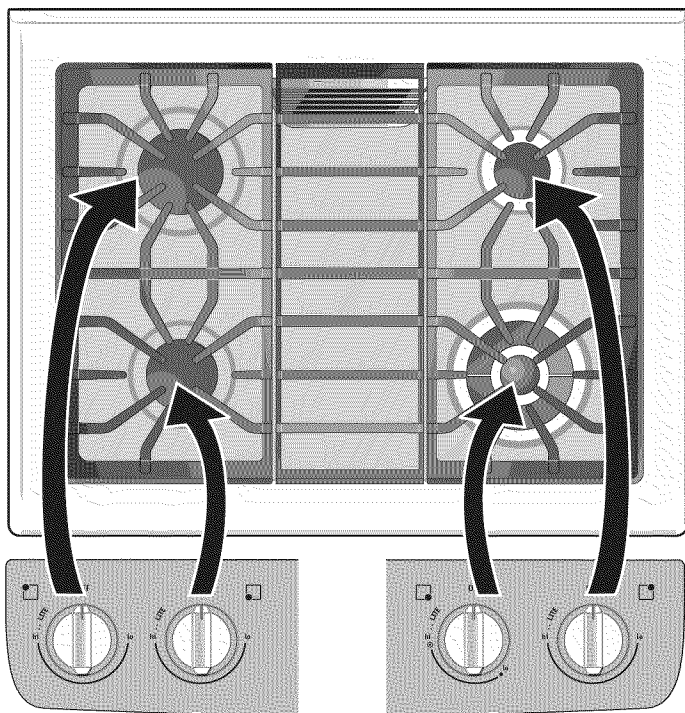

Figure 1
The small SIMMER burner is best used for simmering delicate sauces, etc. This burner is located at the right rear burner position on the cooktop (see Figure 1).
The STANDARD burner can be used for most surface cooking needs. The standard burners are located at the left front position on the cooktop (see Figure 1).
The POWER burners are best used for bringing large quantities of liquid rapidly up to temperature or when preparing larger quantities of food. The POWER burners are located at the right front and left rear burner positions on the cooktop (see Figure 1).
3. Release the knob and rotate to the LITE position (see figures 1 & 2). Note: All four electronic surface igniters will spark at the same time. However, only the burner you are turning on will ignite.